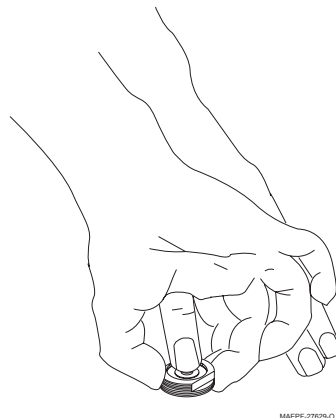

Figure 3.
3. Thread locking nut onto mount and pull up mount base to properly align in hole. While pulling up, finger tighten the locking nut against roof top as show in Figure 3.